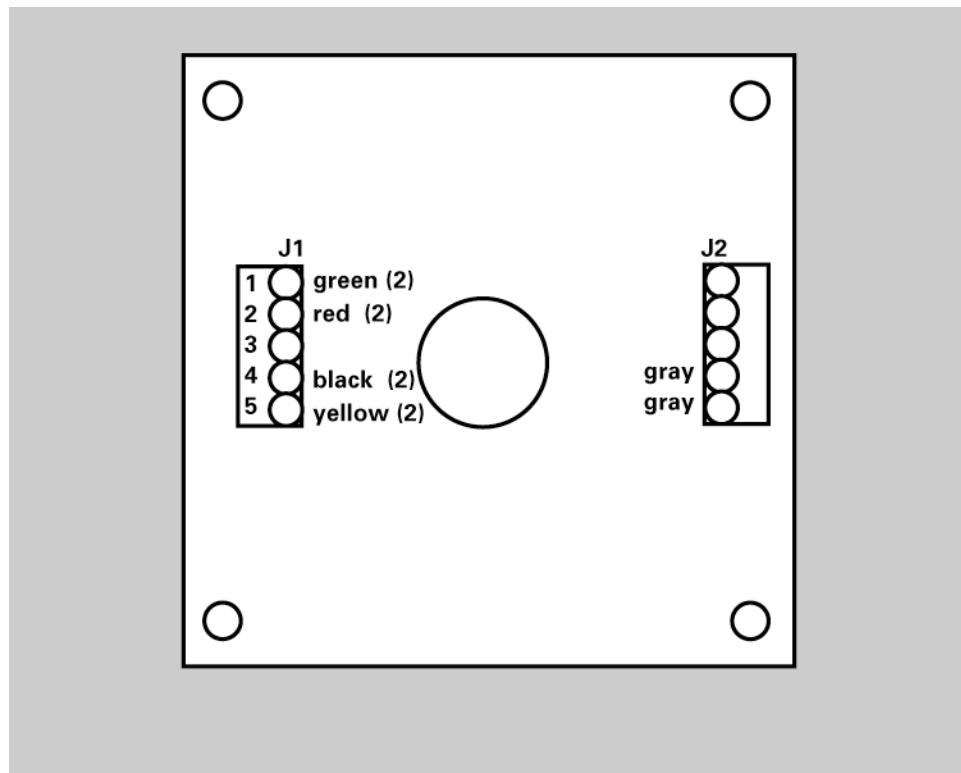
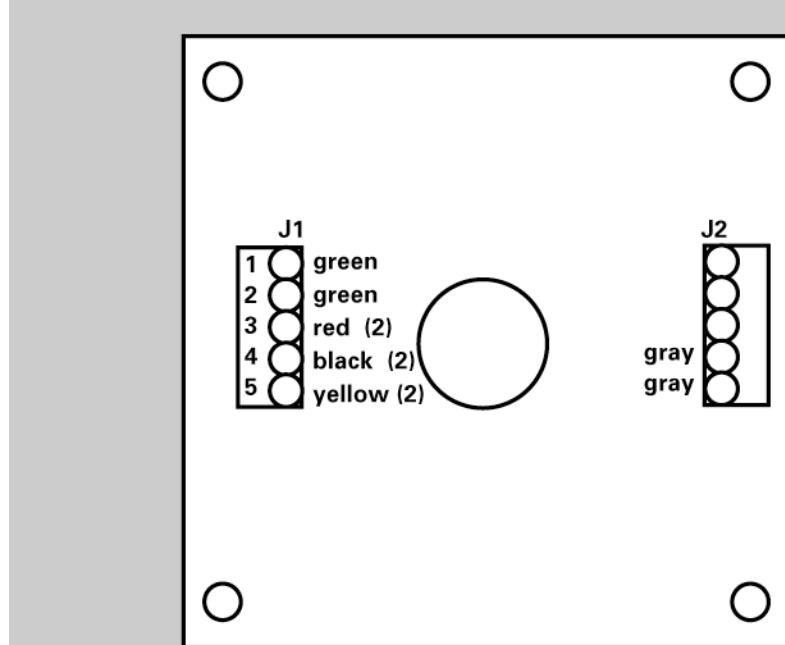

Figure 41
Figure 42
4. For a parallel connection, connect the cable conductors of both cables to terminal block J1 on the PCB of switch enclosures #1 as shown in *Figure 41*. The (2) indicates that two green wires will join together in terminal 1 of J1, etc. For a series connection, connect the wires as shown in *Figure 42*.